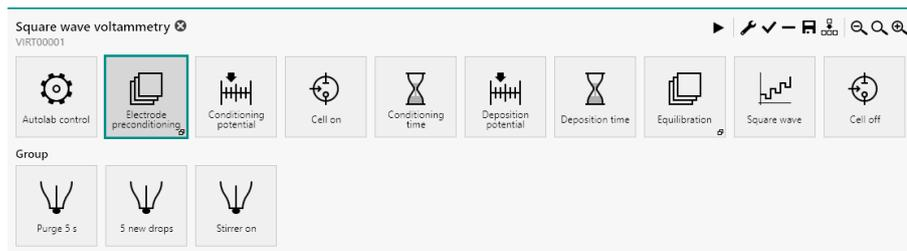

Figure 654 The Electrode preconditioning group
- **Electrode preconditioning:** this command group is used to create new mercury drops at the beginning of the procedure. The commands in this group are used to purge the solution for the specified duration, create the specified number of new drops and switch the stirrer on (see figure 654, page 548).